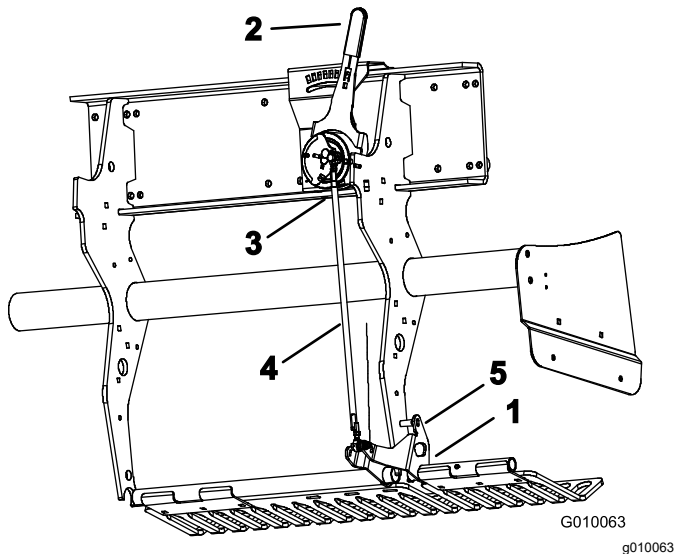

Figure 59
2. Rotate the left turf guard mounting bracket (Figure 59) up until you can insert a locking pin, such as an 8 mm (5/16 inch) drill rod or bolt, between the bracket and the depth setting tube welded to the frame.
3. Move the tine depth lever (Figure 59) to the H setting (deepest).
4. Disconnect the outboard ball switch (Figure 59) from the wire harness (Head–Low switch).
5. Loosen the jam nuts (left and right) on the depth adjustment tie rod (Figure 59).